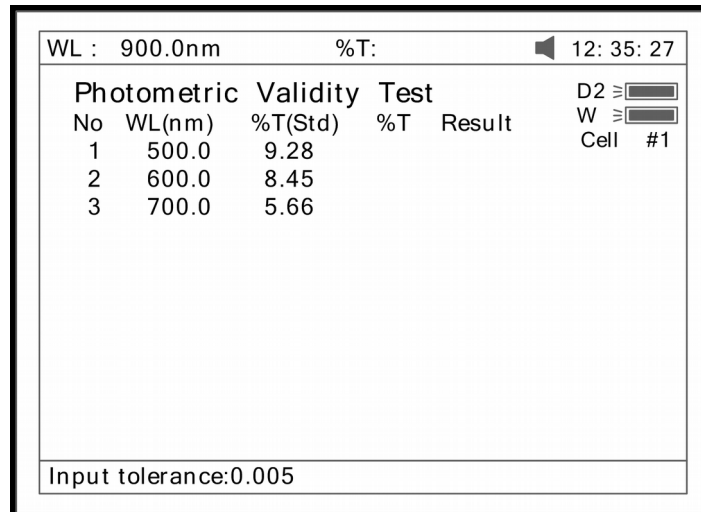

Fig 93
4. Press **(F3)** to set tolerance (Fig 93). Input the value by pressing the numeric keypad.